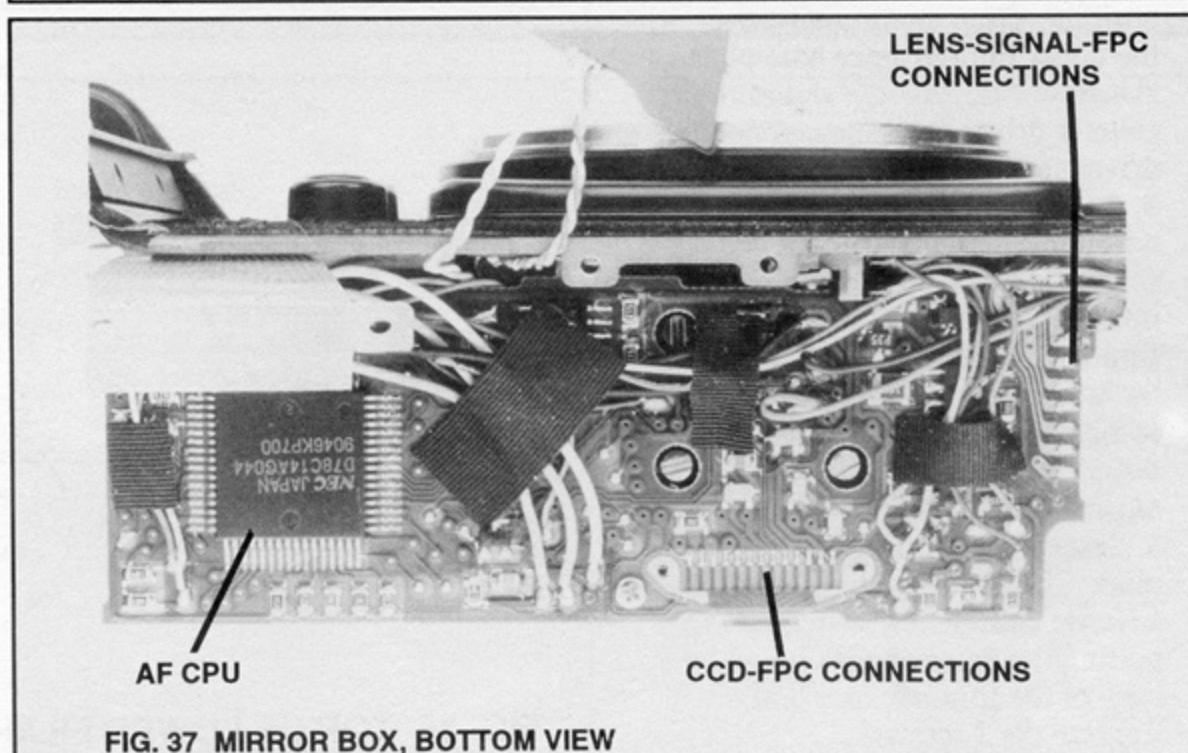
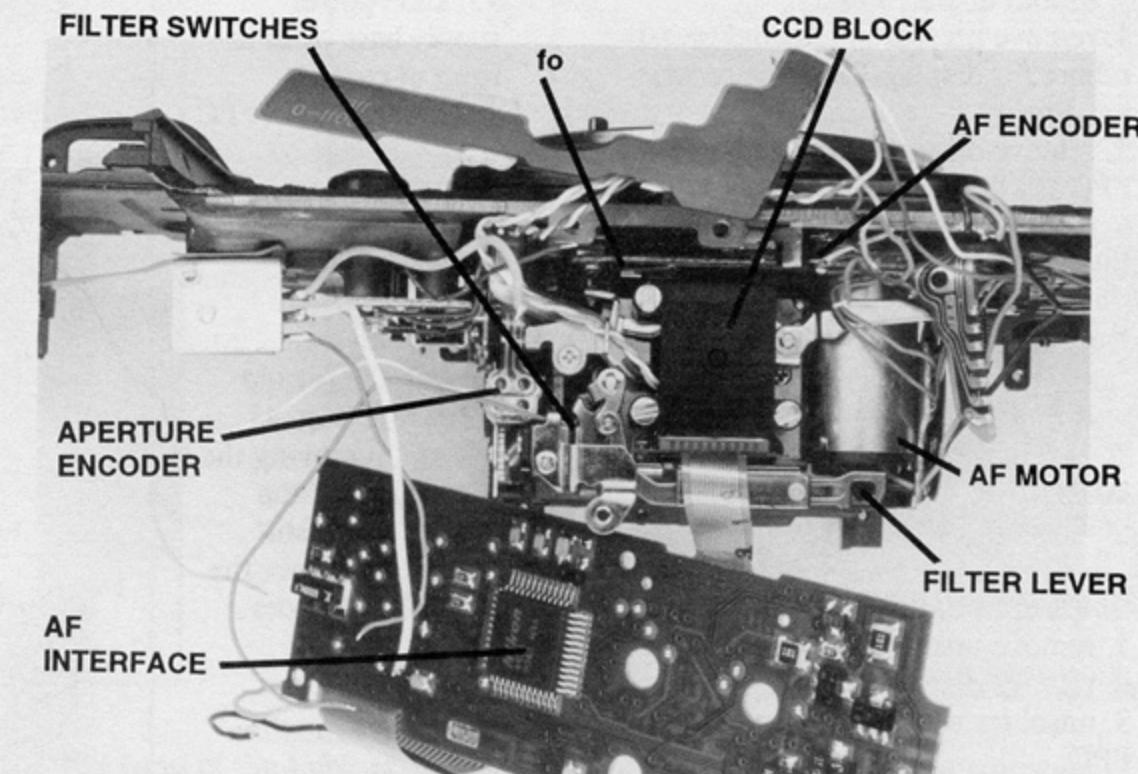
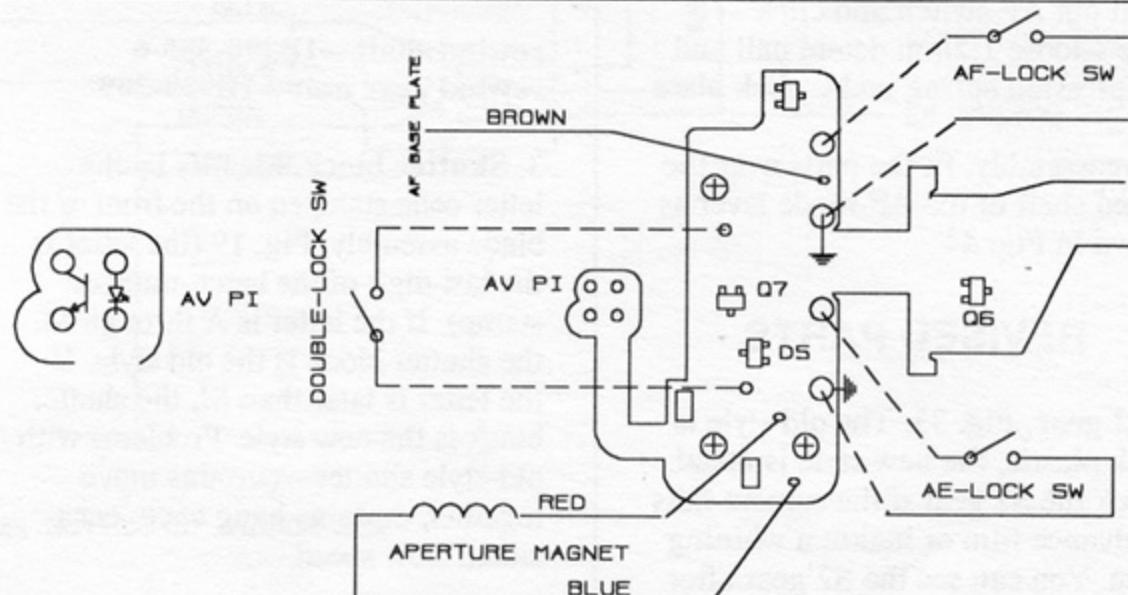

FIG. 37 MIRROR BOX, BOTTOM VIEW
FIG. 38 MIRROR BOX, AF BASE PLATE REMOVED
FIG. 43 WIRING TO LOCK-ENCODER FPC
Nikon supplies individual mirror-box parts. However, the factory policy is to replace the complete front-plate/mirror-box assembly for a defective part. The replacement assembly is supplied without the AF base plate—replacing the front-plate/mirror-box assembly disturbs the CCD adjustment (unless you unsolder the CCD FPC from the AF base plate, Fig. 37).
2. remove tape sections from AF base plate, Fig. 37
under the head of the screw above the lens-signal FPC, Fig. 37
Caution: The brass washer under the AF base plate is now loose—the washer goes under the front left-hand corner of the AF base plate, Fig. 37.
5. unsolder lens-signal FPC from AF base plate, Fig. 37
6. lift aside AF base plate, Fig. 38
Note: To completely remove the AF base plate, you can take out the 3 adjustment screws holding the CCD block, Fig. 38. Since a replacement AF base plate comes with the CCD block, it's then necessary to reset the CCD adjustment. Alternately, you can retain the CCD adjustment by unsoldering the CCD FPC from the AF base plate, Fig. 37. But unless you
have access to the Nikon computer interface, you should probably go no further in disassembly than lifting aside the AF base plate as shown in Fig. 38. You can then reach other areas of the mirror box.
Note: The lock-encoder FPC includes the AE-L and AF-L switches, Fig. 43.
2. unsolder brown wire and aperture-magnet wires (red and blue) from lock-encoder FPC, Fig. 43
3. unsolder 2 contacts of double-lock switch from through holes in lock-encoder FPC, Fig. 43
- unsolder 4 aperture-encoder AV PI connections from lock-encoder FPC, Fig. 38 and Fig. 43